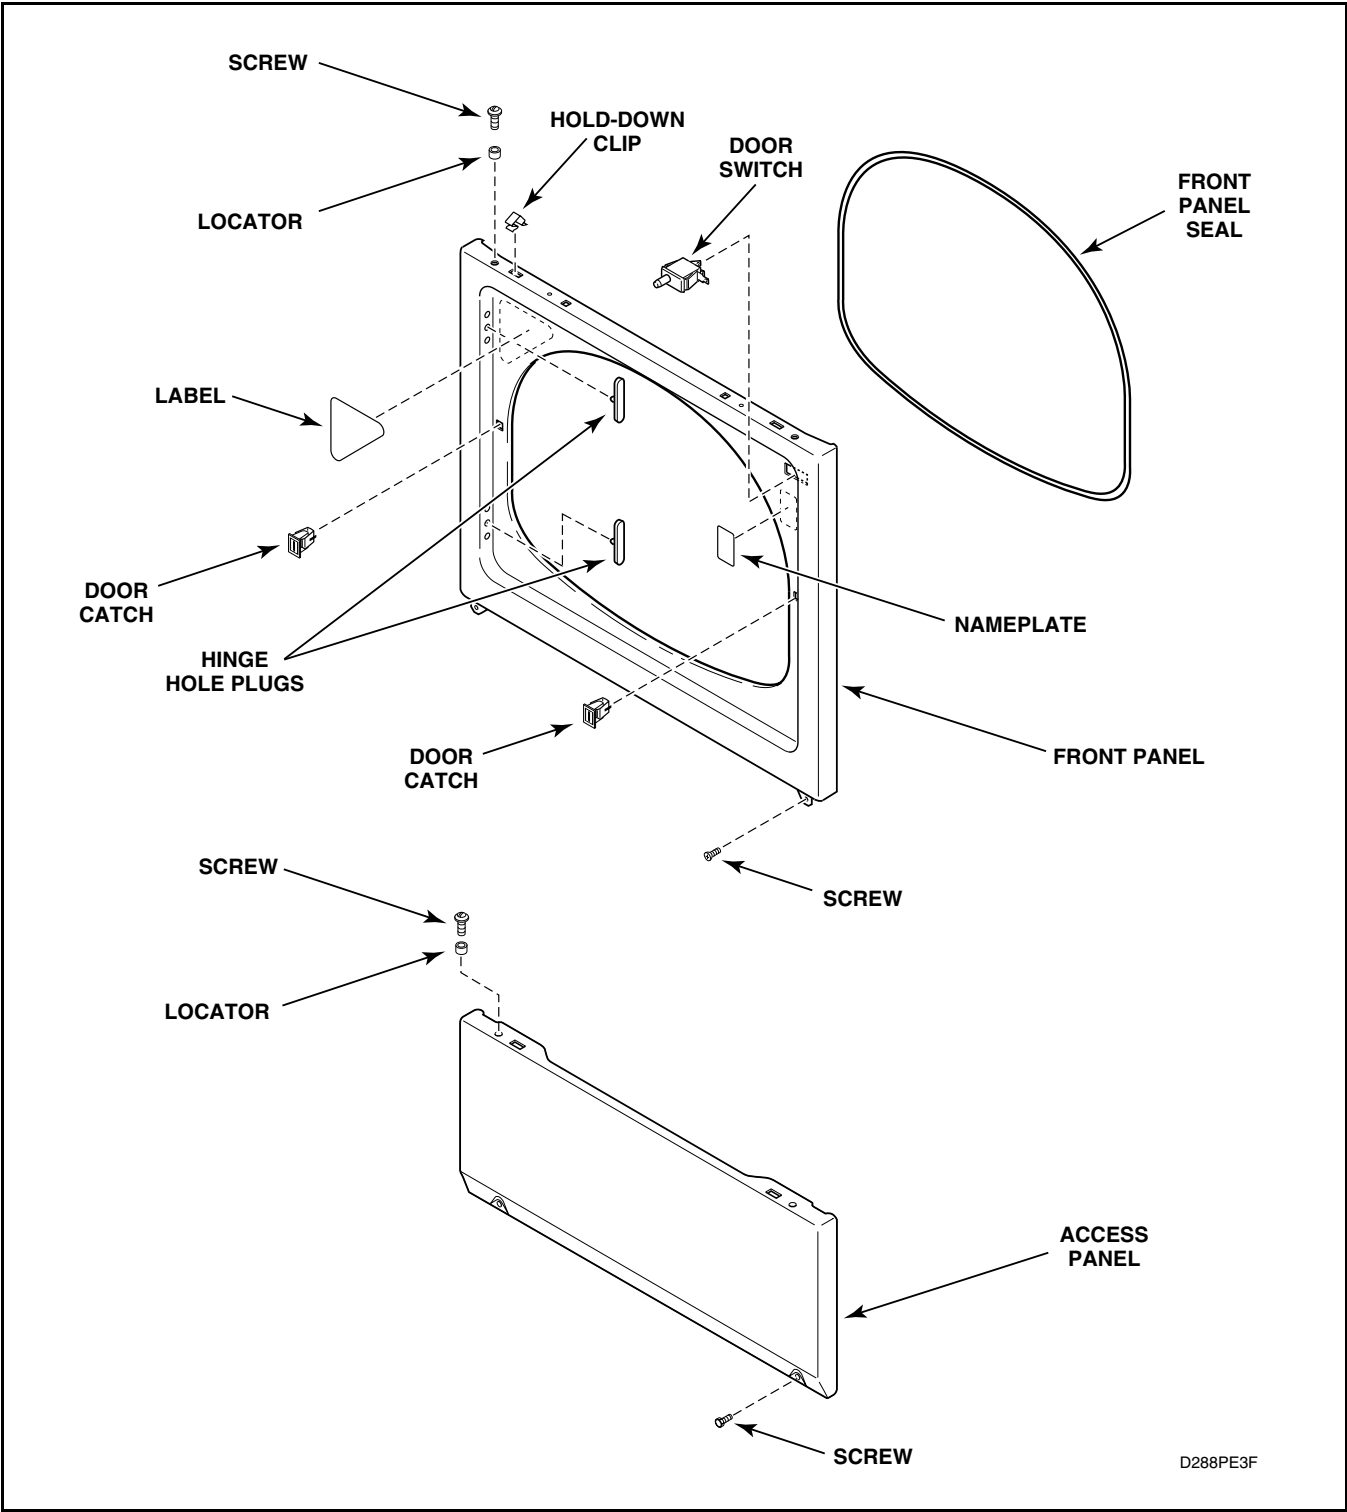
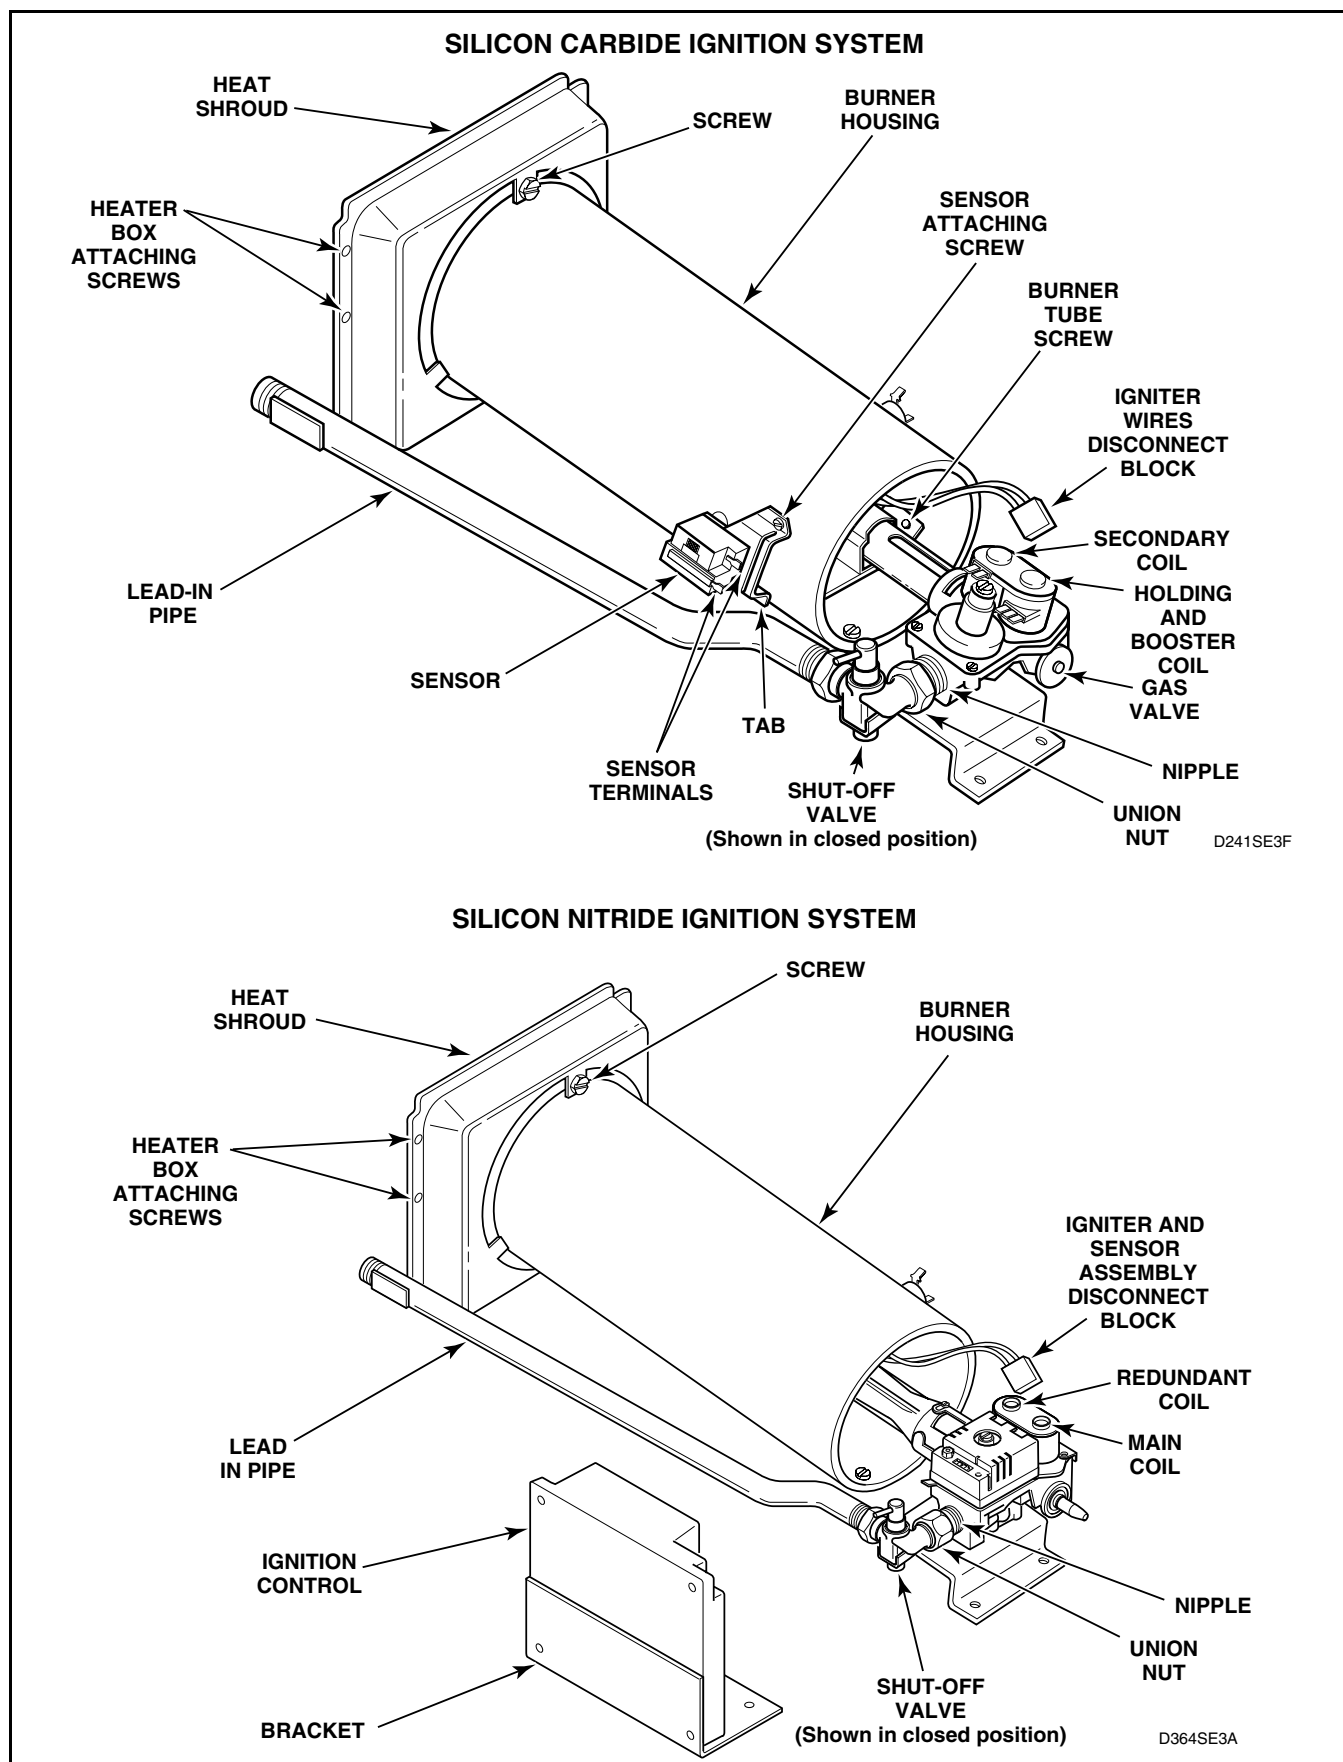
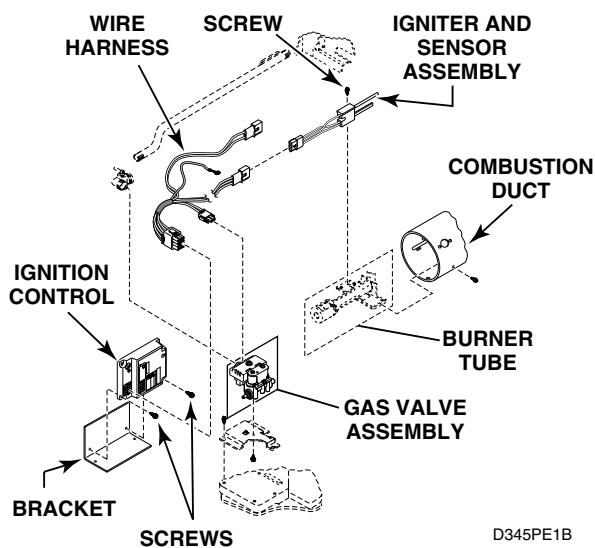

Figure 12
Figure 13
Figure 15
- b. Gently lower the access panel to disengage locators from bottom edge of front panel. Refer to *Figure 12*.
- (2) Gently lower the access panel to disengage locators from bottom edge of front panel. Refer to *Figure 12*.
- (3) Close main gas shut-off valve.
- (4) **Silicon Carbide Ignition:** Disconnect igniter wires at disconnect blocks, sensor wires from sensor terminals, and wires from gas valve coils at the quick disconnect blocks. Refer to *Figure 13*.
**Silicon Nitride Ignition:** Disconnect wire harness from igniter and sensor assembly, and from gas valve coils at disconnect blocks. Refer to *Figure 13*.
- (5) Disconnect gas shut-off valve from gas valve at the union nut. Refer to *Figure 13*.
- (6) Remove three screws holding valve and mounting bracket to base. Refer to *Figure 13*.
- (7) Lift gas valve and mounting bracket from base. Refer to *Figure 13*.
2. Set test meter to read Ohms and put meter probes to terminals shown in *Figure 13*, and in the following chart.
- (4) Move air shutter end of burner tube slightly to right and CAREFULLY remove burner tube and igniter assembly out through front of dryer.
- (5) Remove screw holding igniter and bracket to burner tube and remove igniter and bracket. Refer to *Figure 15*.
- (3) Remove wire harness from ignition control.
- (4) Remove screws holding ignition control to bracket. Refer to *Figure 15*.
- (5) Carefully remove ignition control. Refer to *Figure 15*.
2. **Silicon Carbide Igniter** – meter should read between 45 – 200 Ohms. Refer to *Figure 15*.
1. Close gas shut-off valve. Refer to *Figure 13*.
- (3) Disconnect wire harness from igniter and sensor assembly.
- (4) Remove screw holding igniter and sensor assembly to burner tube. Refer to *Figure 15*.
- Silicon Carbide Ignition:** Disconnect igniter wires at disconnect blocks, sensor wires from sensor terminals, and wires from gas valve coils at the quick disconnect blocks. Refer to *Figure 13*.
- Remove screw holding burner housing to heat shroud. Refer to *Figure 13*.